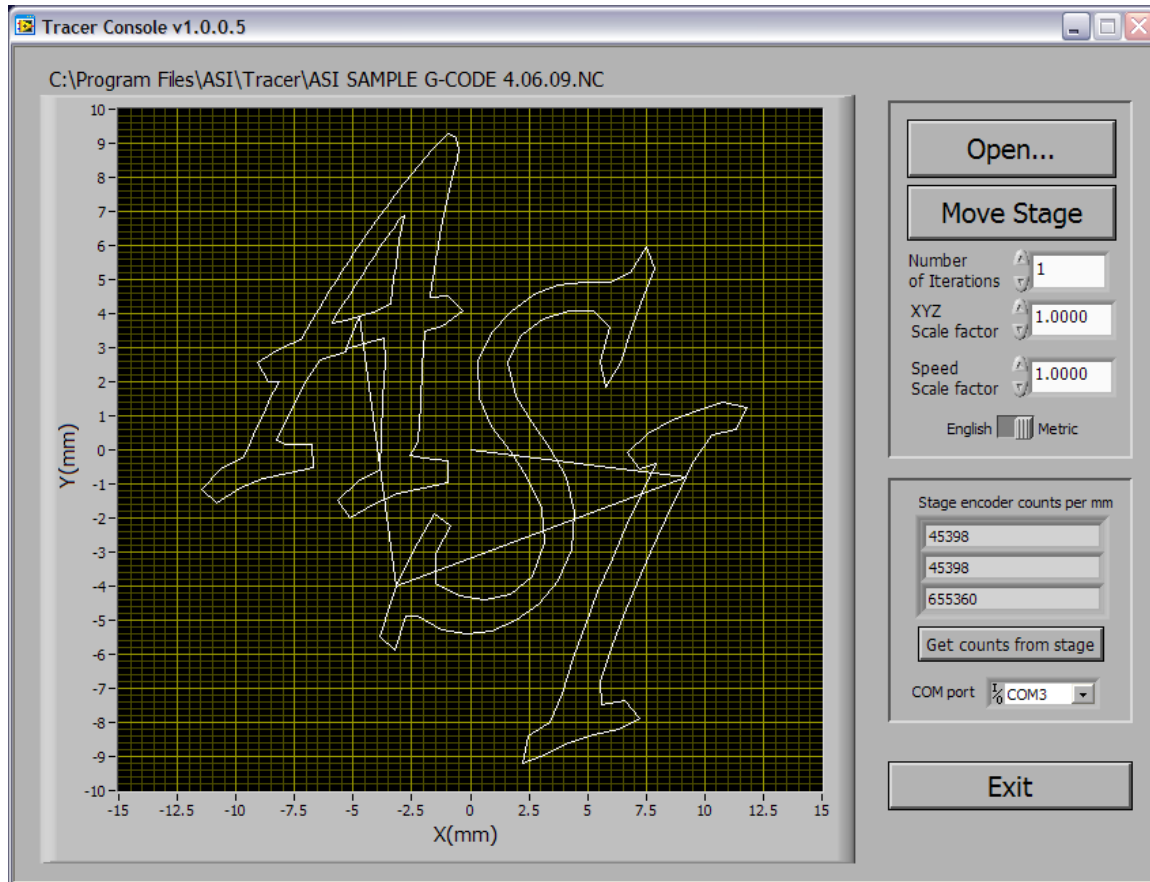

Figure 4 Tracer Console Application Window
In order for the WK2000 to be controlled by G code, it is necessary to use the Tracer Console (TC) application. The application window is pictured in Figure 4.
The file referred to in Figure 4, *ASI Sample G-code 4.06.09.NC*, was generated by CAM software for a computer numerical control (CNC). If a CNC were operated under the control of this file, it would move a tool tracing an image of the letters *ASI*.
Figure 4 illustrates the path followed by a machine under control of this file. The straight lines that are not part of the letters *ASI* show where the cutting tool been lifted away from the metal by the command **Z . 1**.